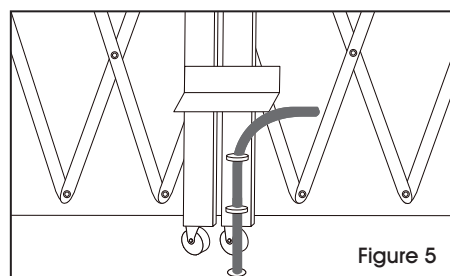

Figure 5
5. With center drop pin raised, extend both halves of gates together to center of opening, mark floor for center drop pin hole and drill a 3/4" diameter x 3" deep hole. Lower center drop pin (Note: some larger gates have an additional pin in the center of each web, mark and drill these last.) Open gates slowly at first to avoid warping. (See Figure 5)